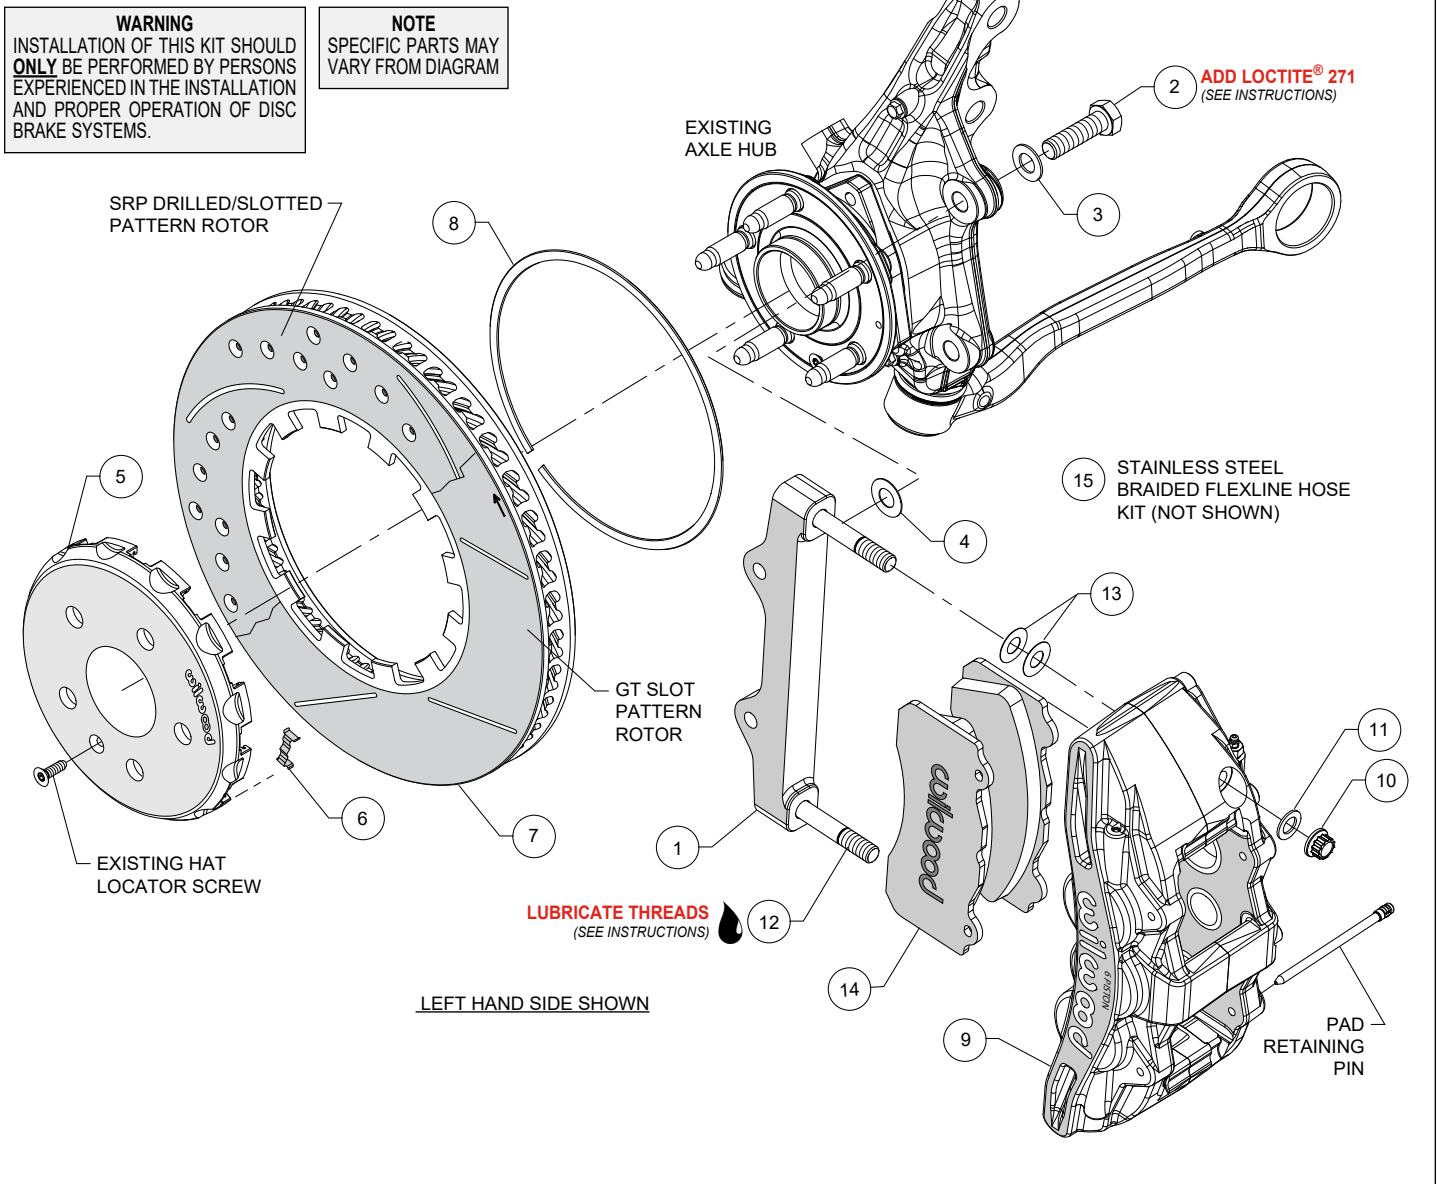

Figure 1. Typical Installation Configuration
**NOTE:** Numbers in parenthesis refer to the parts list and Figure 1 on the preceding pages.
•The caliper mount bracket (1) should initially be installed with clean, dry threads on the mounting bolts. Orient the bracket, as shown in Figure 1 and Photo 1, and install using bolts (2) and washers (3). Initially place one .029" thick shim (4) on each bolt between the bracket and upright, Figure 1. Temporarily tighten the mounting bolts. **NOTE:** The bracket must fit squarely against the mount bosses on the upright. Inspect for interference from casting irregularities, machining ridges, burrs, etc. Later, after the caliper alignment has been checked, the mount bolts will be secured using red Loctite® 271.
•Insert the dynamic mount wear clips (6) into the slots in the hat (5), Photos 2 and 3. Orient the rotor (7) as shown in Figure 1 and Photo 4, with the flush side of mount lugs facing the hat. Secure the rotor to the hat using the snap ring (8) by simultaneously pushing down on the rotor and installing the ring into the groove in the hat, as shown in Photo 5. Carefully inspect snap ring to ensure complete engagement in the groove.
•Slide the hat/rotor assembly onto the axle hub, Photo 6. **NOTE:** The hat must fit flush against the axle hub flange or excessive rotor run out may result. Install the hat locator screw (OEM), as shown in Figure 1, to keep the hat/rotor assembly in place while continuing with the installation.
•**NOTE:** This kit contains distinct right and left hand calipers that must be mounted in a specific direction, as described below. Lubricate the caliper mounting studs (12) with lightweight oil. Initially place two .015" thick shims (13) on each stud between the caliper and the bracket, as shown in Figure 1 and Photo 7. Mount the caliper (9) onto the bracket (1) using lock nuts (10) and washers (11), Figure 1. Temporarily tighten the lock nuts. Ensure that the caliper is mounted so the largest pistons are at the rotor exit end of the caliper, in relation to the direction of the rotor. View the rotor through the top opening of the caliper. The rotor should be centered in the caliper, Photo 8. If not, adjust by adding or subtracting shims (4) between the bracket and the upright. Always use the same amount of shims on each of the two mounting bolts. Once the caliper alignment is correct, remove the bracket mounting bolts (2) one at a time, apply red Loctite® 271 to the threads, and torque to 77 ft-lbs.
•Remove the two pad retaining pins from the caliper (9) by pushing out the pins from the tapered end using a blunt instrument. Insert the brake pads (14) into the caliper from the bottom, Figure 1 and